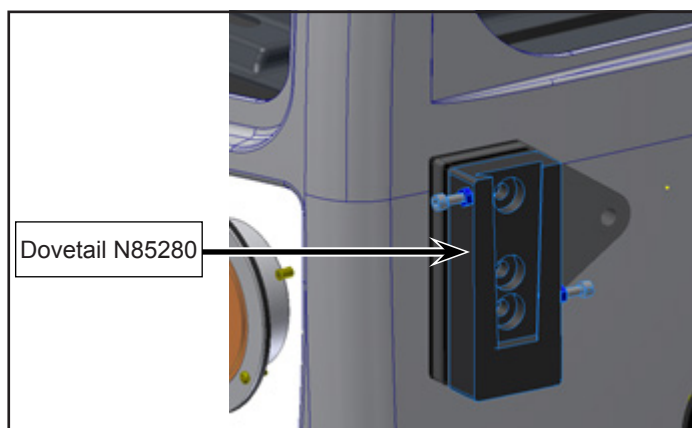

Figure 26 - Installation of Dovetail
- 1.30. Install N85280 dovetail from retained mirror (see Figure 26).